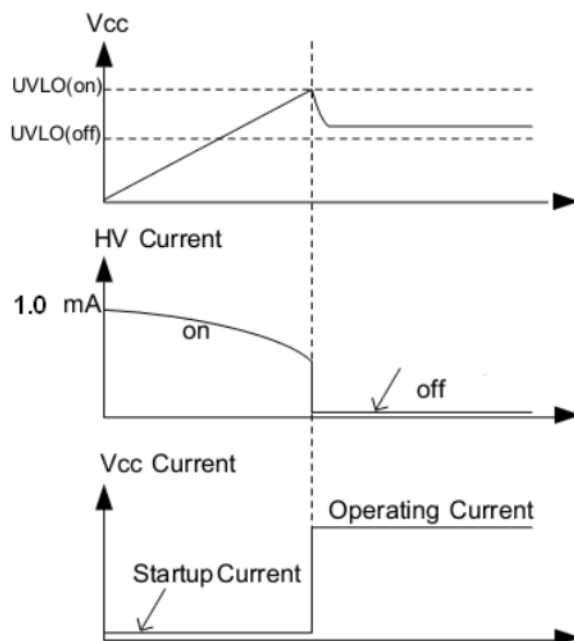

Fig. 1
*Latch PIN FUNCTION OPTION (See below Fig.1)
GR8875N series implements a high-voltage startup circuit, during the startup; high-voltage current sources are turned on and provide the start-up current as well as charge the Vcc capacitor. When the Vcc voltage is higher than the UVLO (on) threshold, the high-voltage current source will be turned off. Its leakage current is very low (30uA), which only consumes little power. By using such configuration, the traditional startup resistor is not needed and power consumption will reduce. (Refer to Fig. 1).
respectively. This hysteresis shown in Fig.1 ensures that the start-up capacitor will be adequate to supply the chip during start-up.